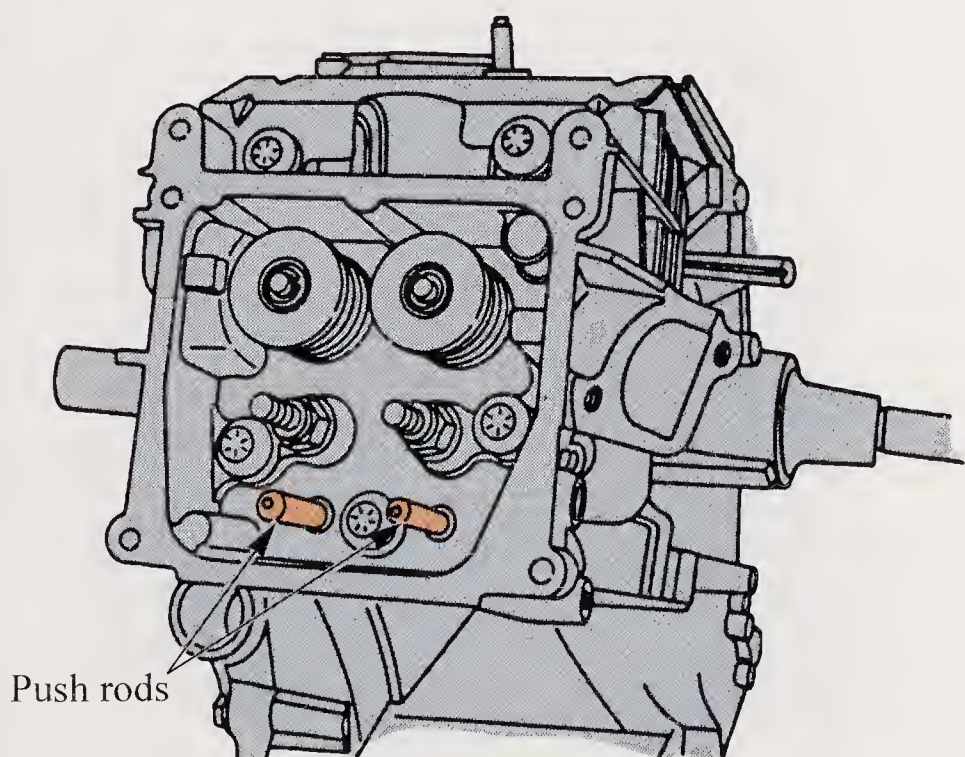

Figure 17-73. Remove pushrods by lifting them out of holes. Check for straightness by rolling the rods on a flat surface. (Briggs & Stratton Corp.)
4. When the rocker arms are removed, lift out the pushrods. See **Figure 17-73**. (Note the location of each pushrod and do not interchange them when reassembling the engine.) After cleaning the pushrods, check them for straightness by rolling them on a flat, machined surface. If they are bent, replace them. Do not try to straighten pushrods.